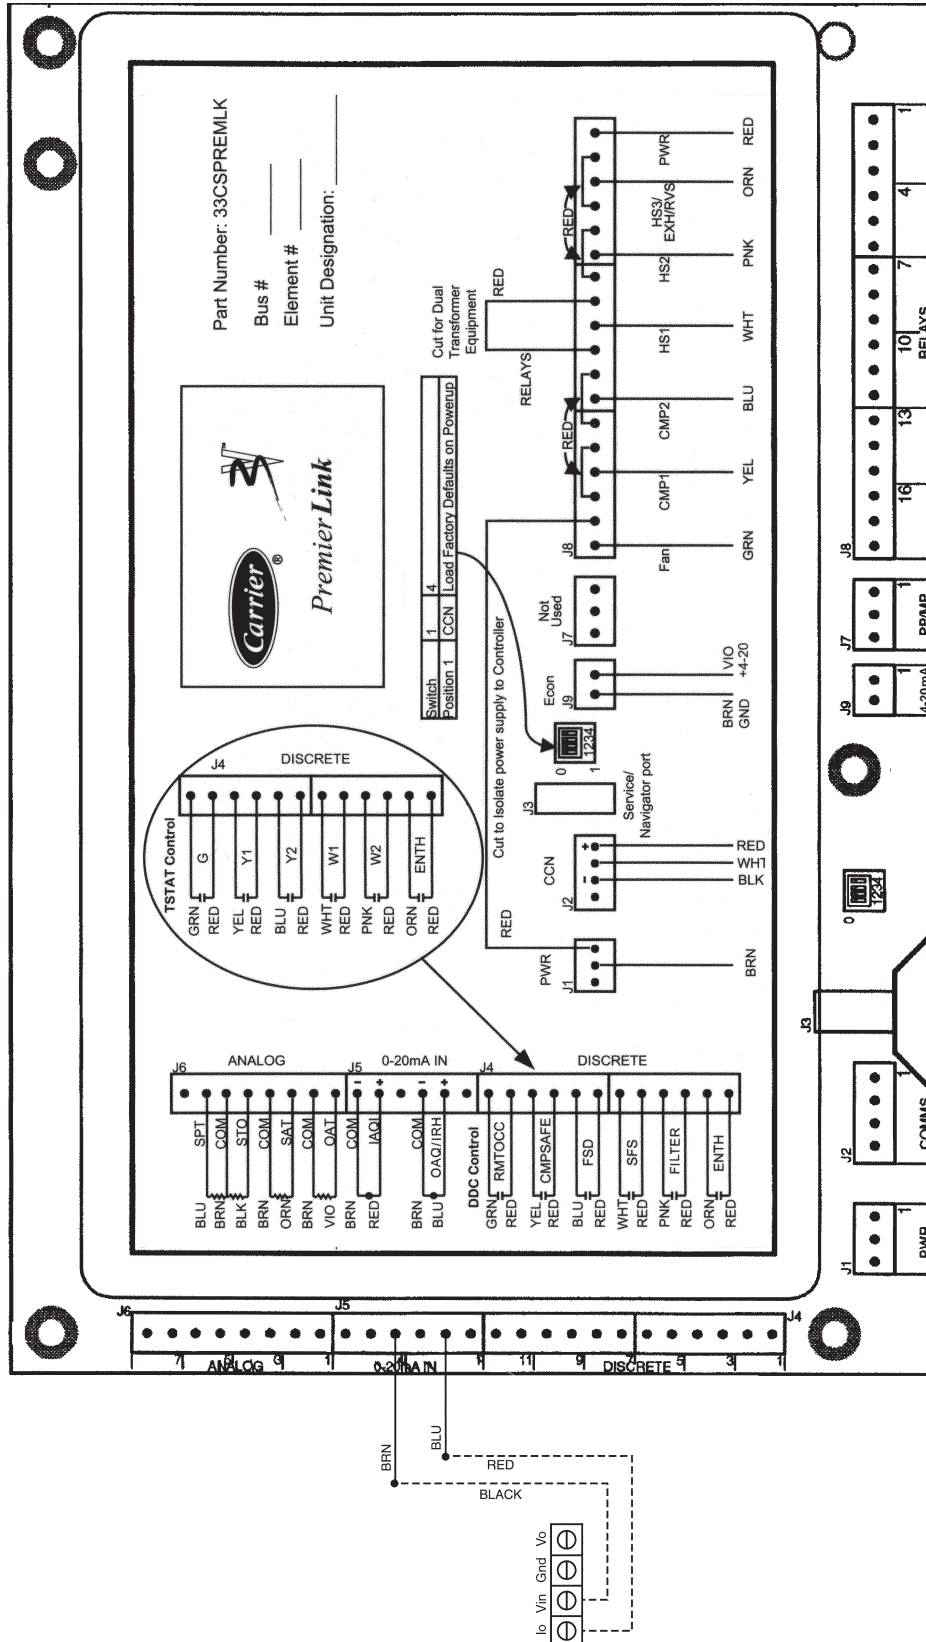

Fig. 21 — Humidity Sensor Wiring
For wiring distances up to 500 feet, use a 3-conductor, 18 or 20 AWG cable. A CCN communication cable can be used, although the shield is not required. The shield must be removed from the sensor end of the cable if this cable is used. See Fig. 21 for wiring details.
4. At the PremierLink controller, route the cable away from high voltage wiring and disconnect the power to prevent accidental shorting or grounding of wires when connecting the sensor. Remove the J5 Molex female plug and locate the BROWN wire on pin 3. Using a small, flat blade screwdriver gently press down in the slot on the side of the plug while pulling on the BROWN wire to remove it from slot. Re-insert the BROWN wire in the pin 4 slot making sure it is securely seated. There should now be an empty slot between the BLUE and BROWN wires. See Fig. 21.